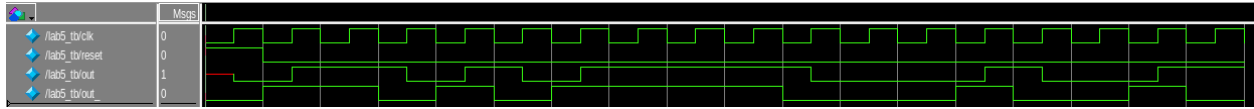
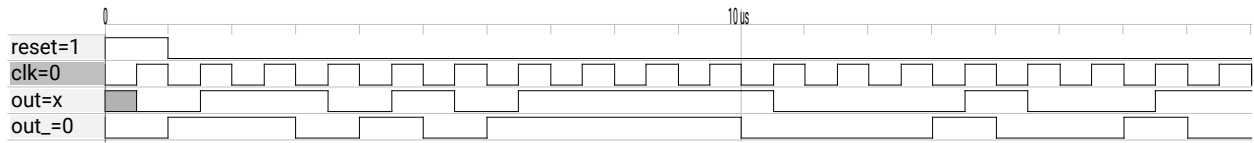

Figure 1: Simulation waveforms (Modelsim screen capture).
Figure 2: Simulation waveforms (GTKWave).
- a screen capture of the simulation waveforms similar to that in Figure 1 or Figure 2.